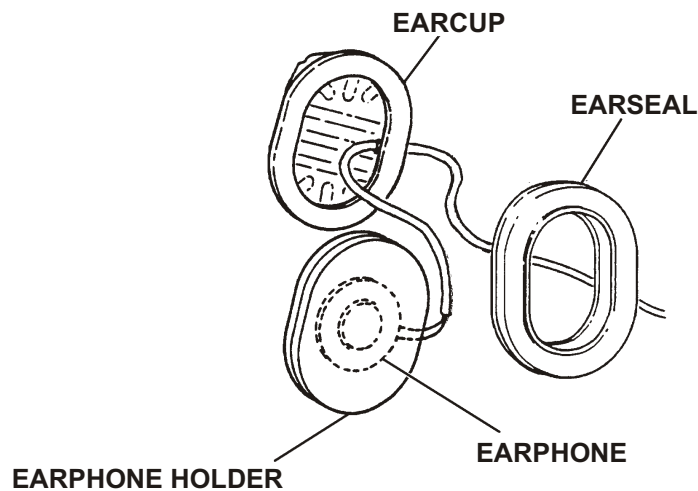

Figure 3-2. Earcup, Earseal, and Earphone Holder
2. Referring to Figure 3-2, remove the earseal by carefully stretching it away from the lip of the earcup shell.